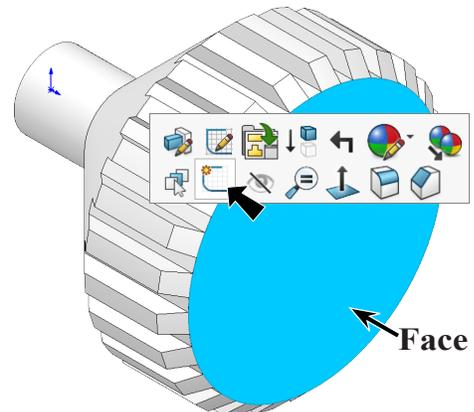
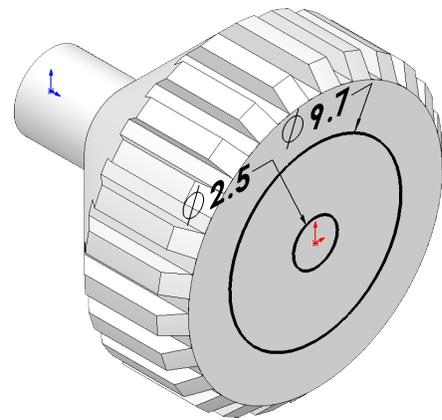

Fig. 18
Fig. 19
Step 1. Click the **side face of revolve** and click **Sketch**  on the context toolbar, **Fig. 18**.
Step 2. Click **Circle**  (S) on the Sketch toolbar.
Step 3. Sketch two circles at **Origin** , **Fig. 19**.
Step 4. Click **Smart Dimension**  (S) on the Sketch toolbar.
Step 5. Dimension diameters **2.5** and **9.7**, **Fig. 19**.